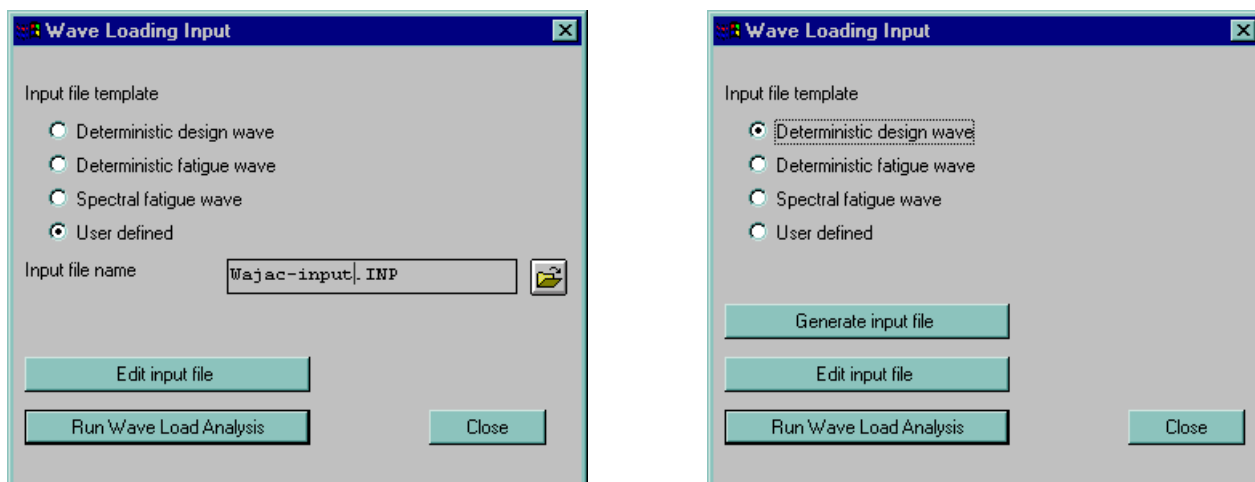

Figure 3.13 Wave load calculation for frame structures — Wajac
If you have already an analysis control data file for Wajac then specify this by selecting **User defined** input file as shown to the left in Figure 3.13. Click **Run wave load analysis** to start the Wajac execution.
- Generate a template for a Wajac analysis control data file by selecting the appropriate **Input file template**, e.g. **Deterministic design wave**, and clicking the **Generate input file** button as shown to the right in Figure 3.13.